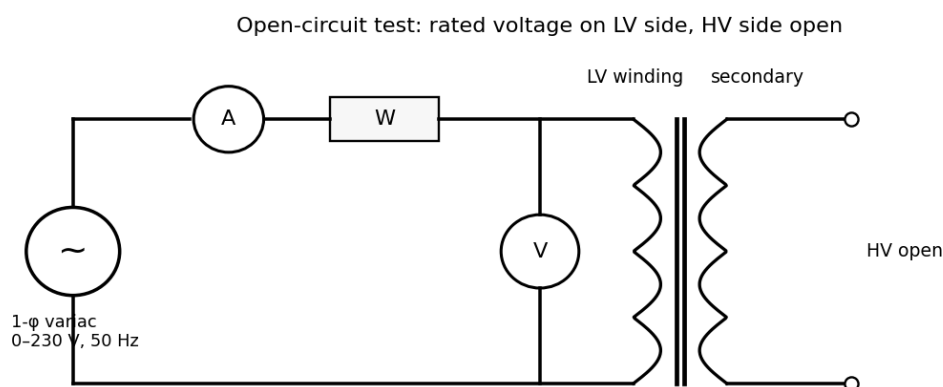

Figure 9.1: Open-circuit test connections.
- **OC test:** connect the circuit of Figure 9.1 with the variac at zero. Increase the voltage to rated LV voltage (115 V) and note V_o , I_o and W_o .